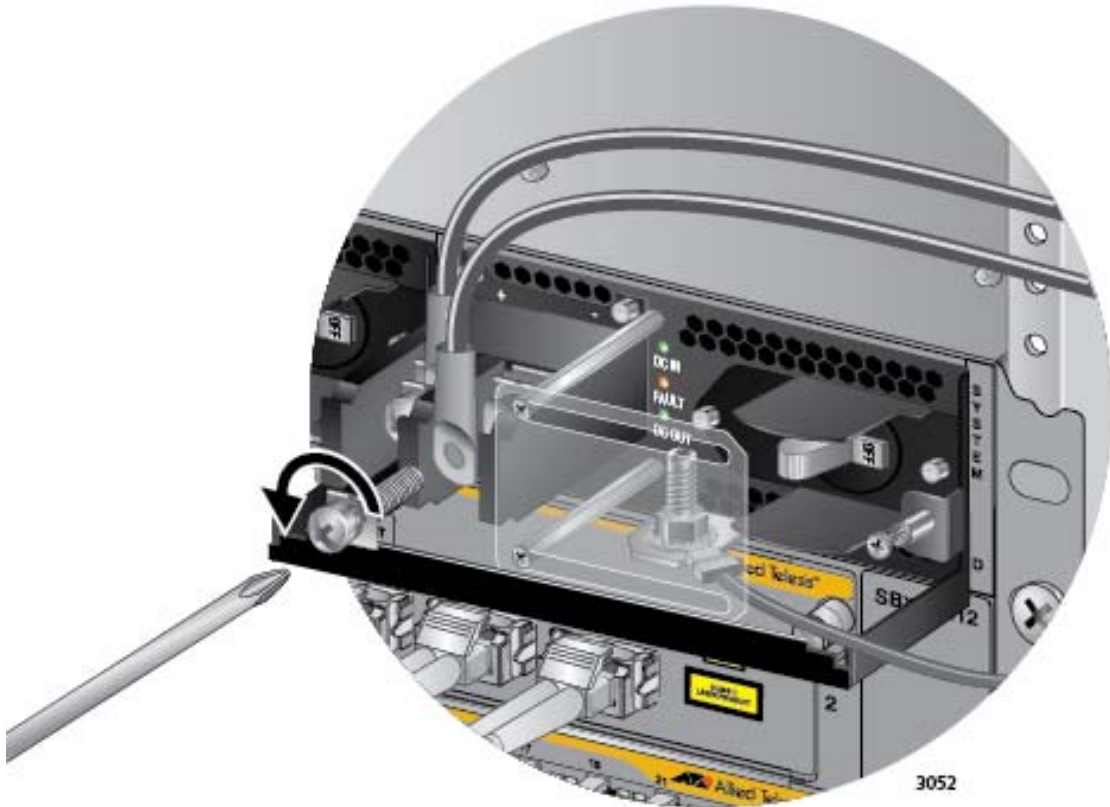

Figure 169. Removing the Negative Lead Wire
5. Use a #3 screwdriver to remove the negative (-) lead wire from the terminal block. The negative lead wire is on the right. Refer to Figure 169 on page 278.